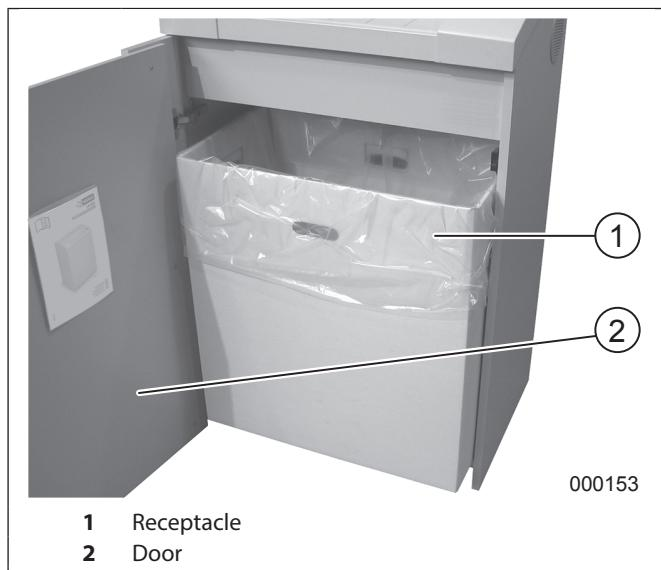

fig. 4 Receptacle
1. Open the door (fig. 4/2).
- The control display (fig. 4/6) comes on.